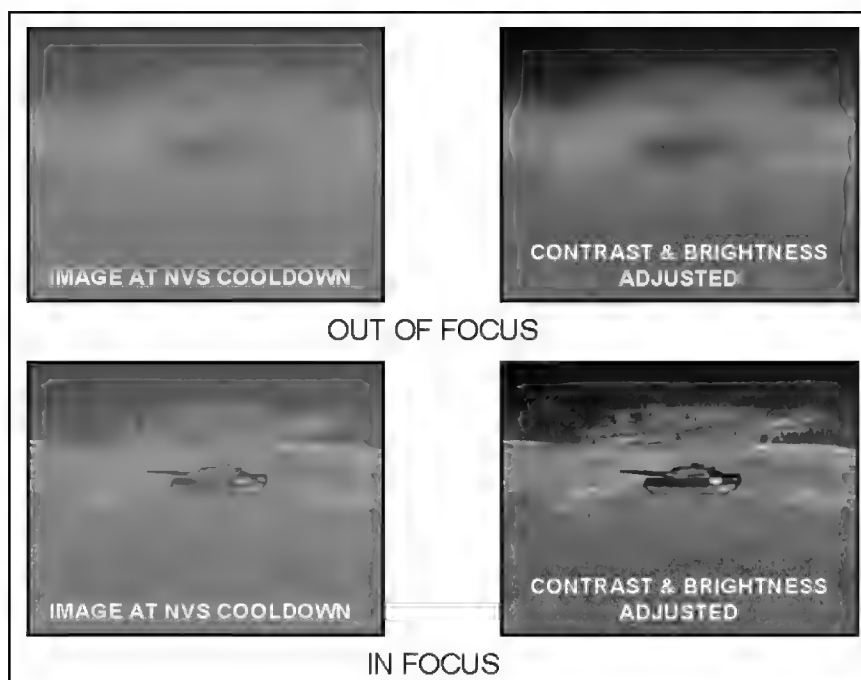

Figure E-13. Focus adjustments.
(1) **Focus.** The FOCUS switch adjusts NVS image focus. (An object is in focus when the gunner can easily identify its details or features.) Just like a camera, when an object is in focus in the NVS, anything closer or further away appears out of focus. When the gunner first uses the NVS after cool down, he adjusts the focus before he adjusts the contrast and brightness. Otherwise, the edges of objects in the target scene are blurred, and the gunner is not able to adjust contrast and brightness properly (Figure E-13).